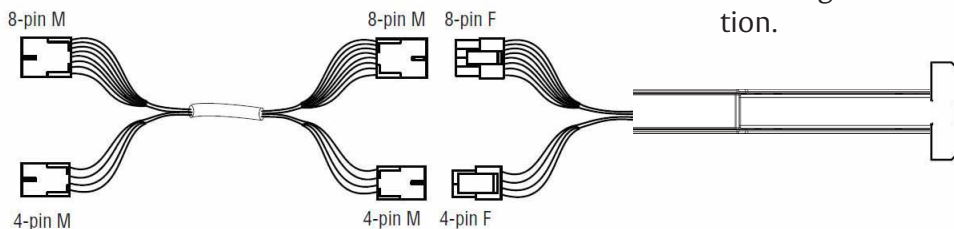

Figure 9 ElectroLynx Timer Mode Installation
3. Connect the ElectroLynx harness in the door (Figure 9 ElectroLynx **Timer Mode** Installation):